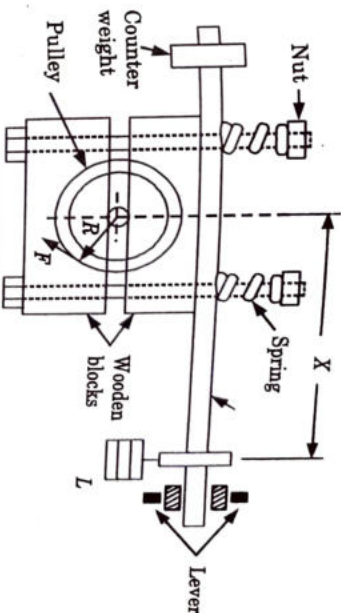

Fig. 4.17.1. Prony brake dynamometer.
1. It consists of two wooden blocks, placed around a pulley of radius r as shown in Fig. 4.17.1.